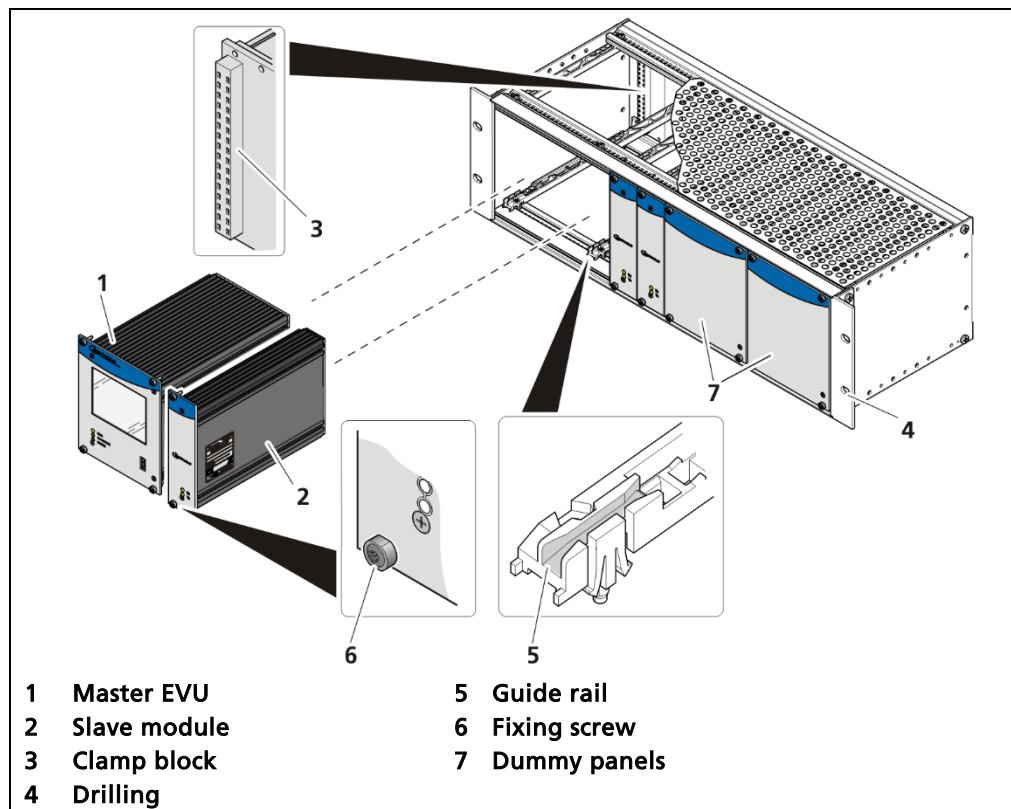

Fig. 13 19" subrack with clamp blocks (Ex: 1x Master, 3x Slave)
The Master EVUs / Slave modules must be secured by fixing screws (Fig. 13, item 6).
1. Set master EVU / slave module (Fig. 13, item 1, item 2) in the guide rails (Fig. Fig. 13, item 5).
3. Tighten fixing screws (Fig. 13, item 6).